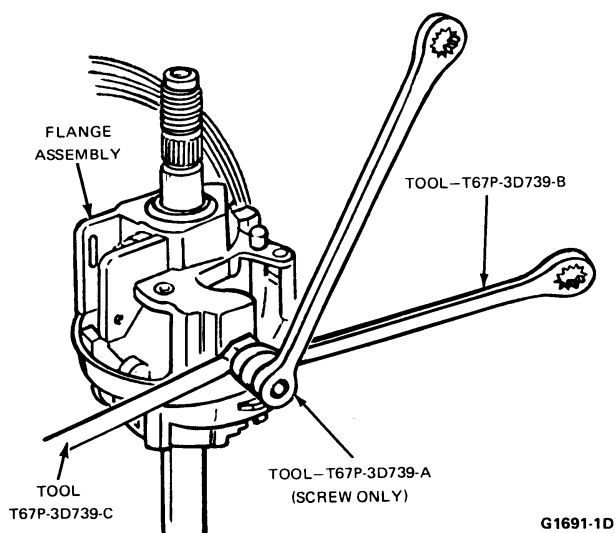

FIG. 25 Removing Pivot Pin
4. The upper and lower flange castings can now be separated by removing the two pivot pins located in the side of the casting assembly with either Tool T67P-3D739-B or Tools T70P-3D739-A and T67P-3D739-C (Fig. 25).